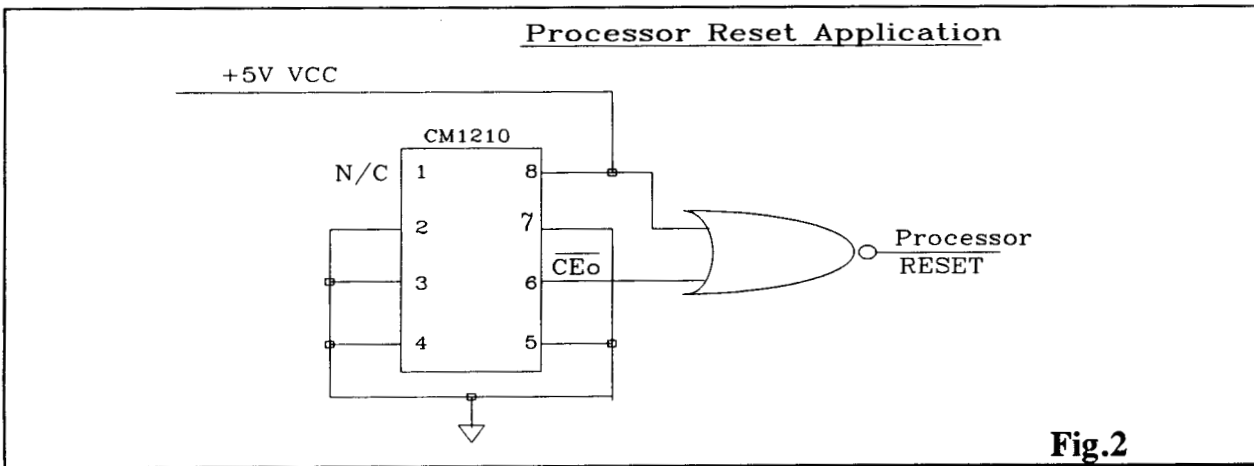

Fig.2
**Fig. 2** shows the use of the CM1210 to halt the processor when VCC is less than 4.75 Volts and to delay its restart on power-up to prevent erroneous writes.